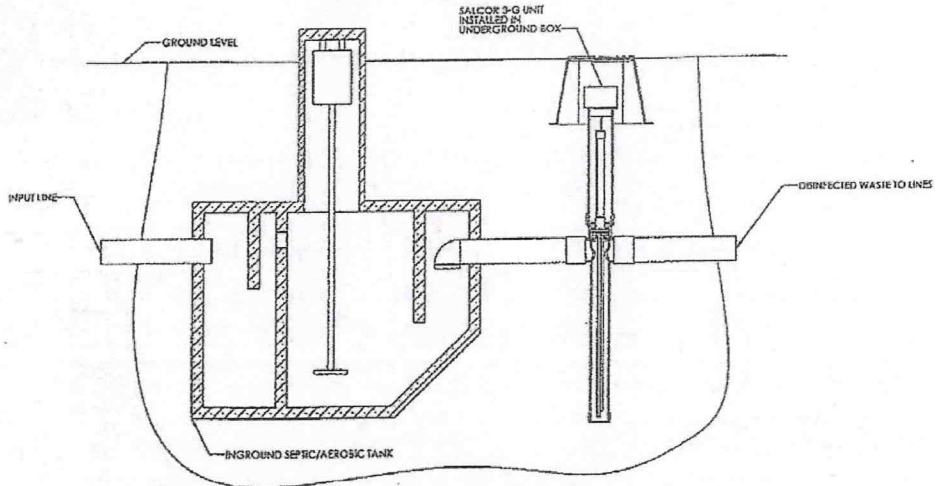

Figure 2
1. In the ground: couple the 4-inch inlet pipe to the exit pipe of the pretreatment unit, and couple the 4-inch outlet pipe to the drain field pipe. See *Figure 2*.